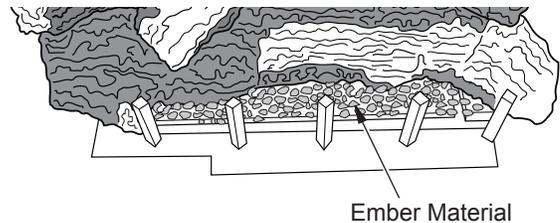

Figure 46 - Placing Ember Material on Burner
9. Pull ember material apart into pieces no larger than a dime. Place these pieces loosely and sparingly directly onto exposed section of front burner and along space between burner and grate prongs (see Figure 46). This will create a glowing ember appearance as the flame touches ember material. Do not block air slots by using too much ember material in one area. It is not necessary to use all of the ember material provided.